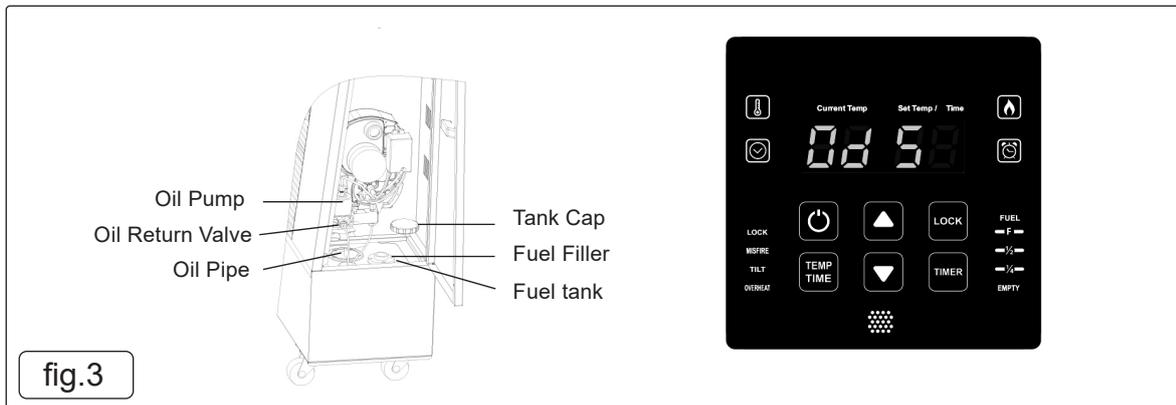

fig.3
1. Pull out the return valve's connecting oil pipe (see fig.3) and replace it with the long oil pipe provided. Then, return the oil container to its original position.